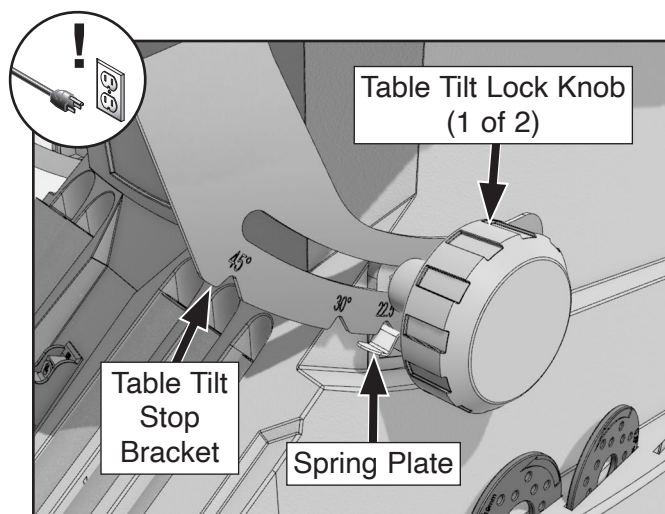

Figure 37. Location of table tilt components.
2. Loosen both table tilt lock knobs (see **Figure 37**).
3. Press down spring plate to disengage it from detents in table tilt stop bracket (see **Figure 37**).